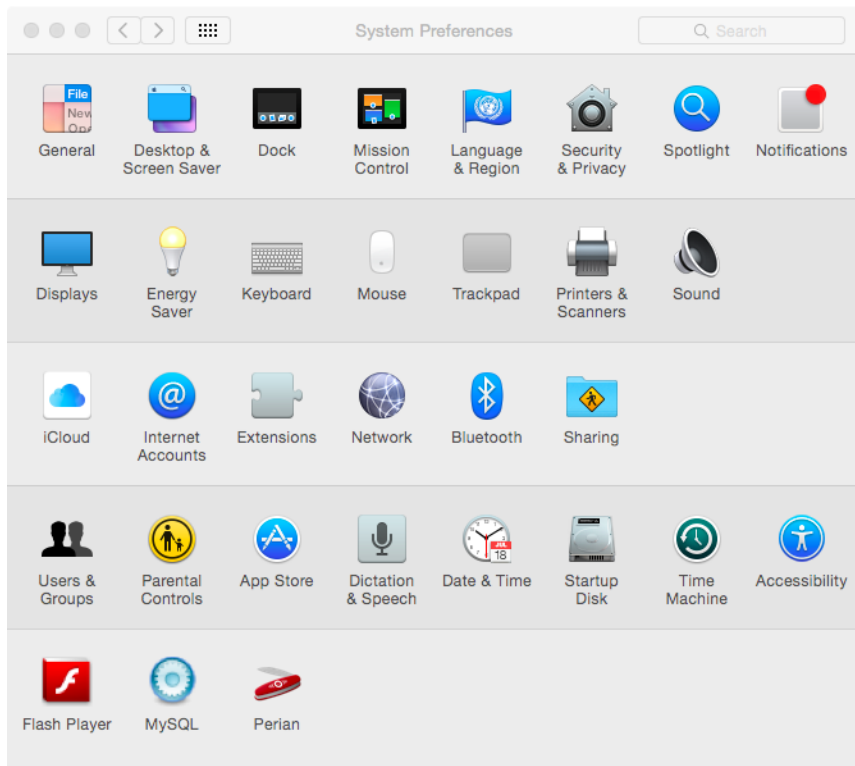

Figure A-7 OS X System Preferences
1. Open the System Preferences app (Figure A-7).